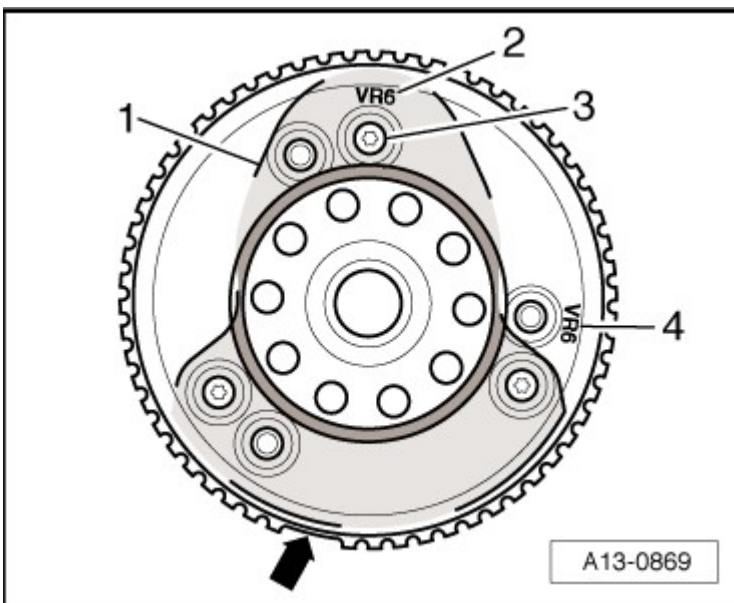

Fig. 5: Identifying "VR6" Marking Positioned At Bore Of Bolt That Goes Into Crankshaft Crankpin
- Installing, refer to **Fig. 5**
- Replace sensor wheel every time bolts are loosened, refer to **Fig. 5**